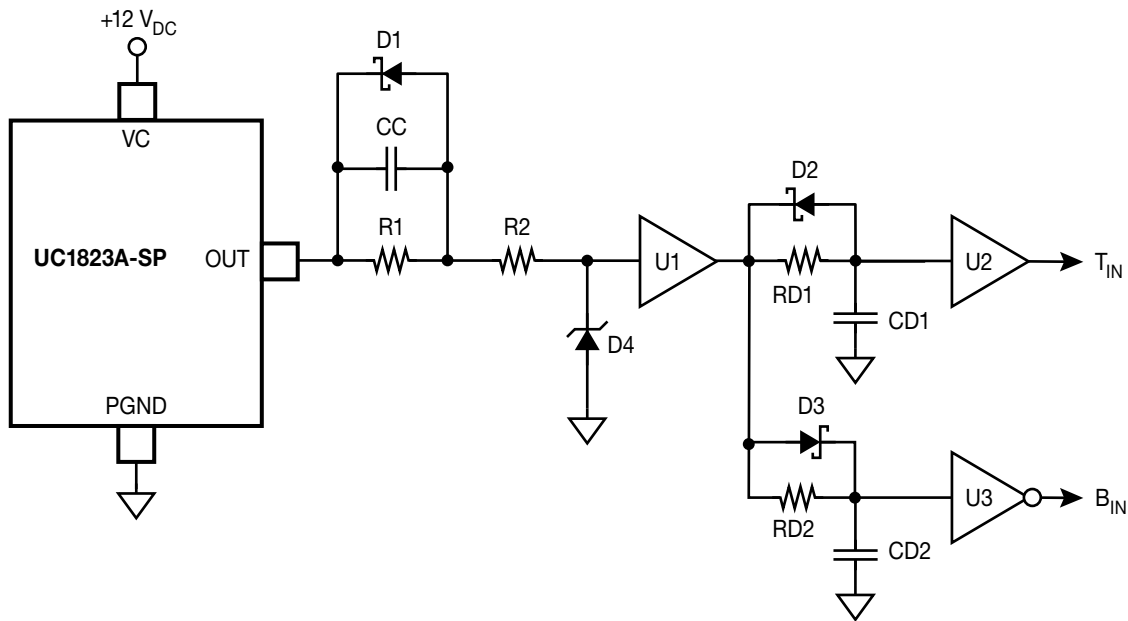
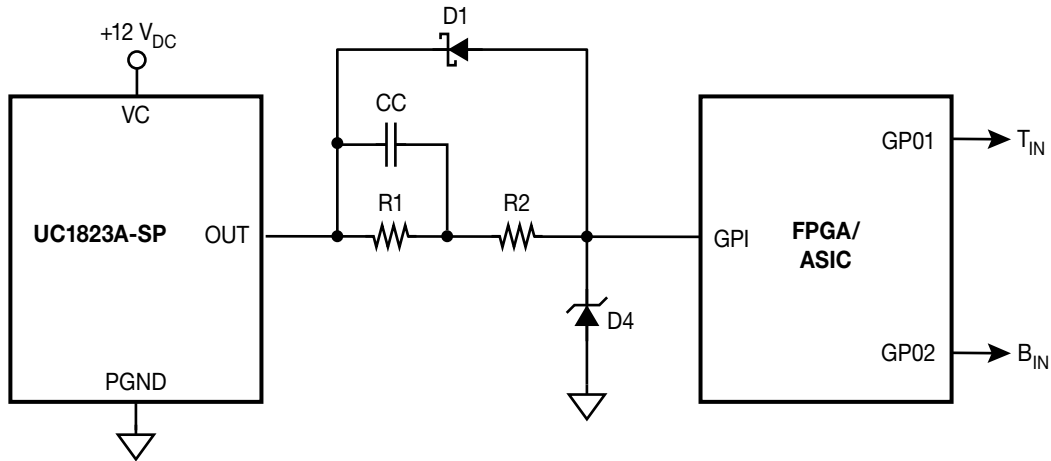
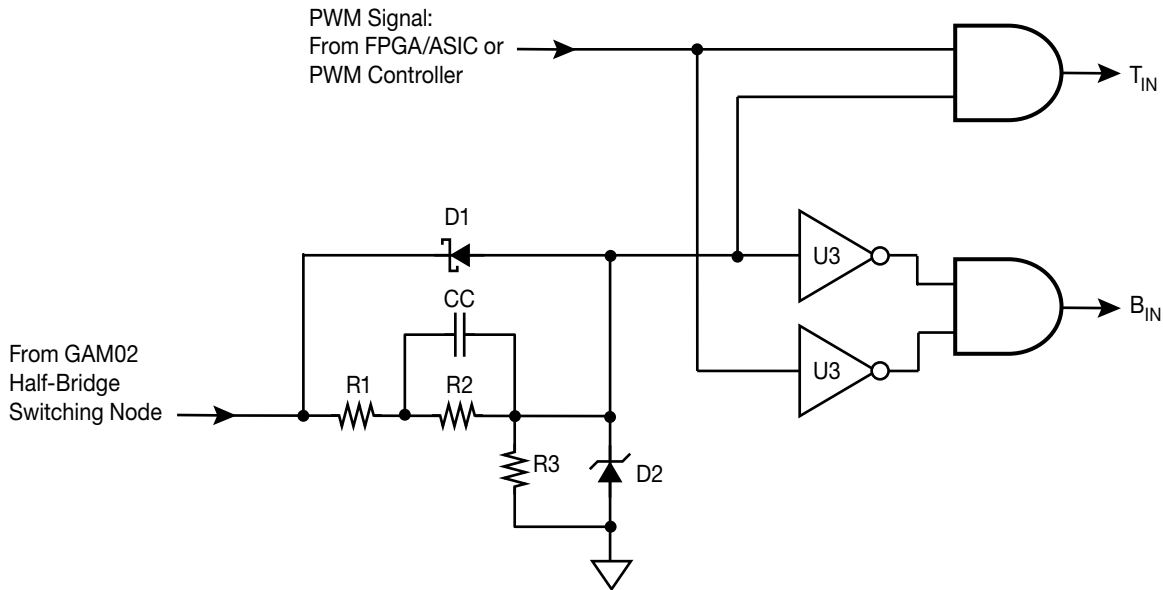

Figure 14. Zener Diode Logic Input Voltage Clamp Circuit and Dead Time Delay Circuit
Figure 15. Zener Diode Logic Input Voltage Clamp Circuit with ASIC/FPGA Two-Phase Clock (With Dead Time) Generator
Figure 16. Adaptive Dead Time Control for Cross-Conduction/Shoot-Through Avoidance
A Zener diode may be used to clamp the  $B_{IN}$  and  $T_{IN}$  logic inputs of the FBS-GAM02-P-C50 in order to interface the module to a high output voltage level PWM controller, as shown in Figure 14. The output of the UC1823A is a totem-pole configuration, and the output switches between  $0 V_{DC}$  and  $12 V_{DC}$  as logic 0 and logic 1, respectively. The transition times between logic states for a 1000 pF load are typically 20 ns, but much faster with lighter loads.
The same Zener diode clamping circuit as shown in Figure 14 may be used to clamp the output of the UC1823A to a lower voltage level in order to present it to an ASIC/FPGA in order to generate the requisite two-phase clock signals for the  $B_{IN}$  and  $T_{IN}$  logic inputs of the FBS-GAM02-P-C50. A typical circuit for this circuit implementation is shown in Figure 15:
In the circuit of Figure 15 all the high-speed and high accuracy analog functions associated with the PWM controller are performed off-chip from the FPGA/ASIC. The programmable logic of the FPGA/ASIC and the associated firmware code is responsible for generating the two-phase clock with dead times required by the  $B_{IN}$  and  $T_{IN}$  inputs of the FBS-GAM02-P-C50.
In circuits shown in both Figure 14 and 15 the dead times required by the FBS-GAM02-P-C50 to avoid cross-conduction/shoot-through are generated in a “brute force” manner either with analog components (Figure 14) or with programmable logic and firmware in an FPGA/ASIC (Figure 15). There is another way to obtain the optimum dead times for the FBS-GAM02-P-C50 device – adaptive dead time control, as shown in Figure 16.
Adaptive dead time control utilizes the state of the switching node (SN) of the GAM02 in order to allow the  $B_{IN}$  or  $T_{IN}$  signals (in this case the  $B_{IN}$  signal is the simple logical inverse of the  $T_{IN}$  signal) to be applied to the  $B_{IN}$  or  $T_{IN}$  logic inputs of the FBS-GAM02-P-C50 in order to avoid dynamic cross-conduction/shoot-through in the low- and high-side output power HEMTs. If the switching node of the FBS-GAM02-P-C50 is “low” (i.e. at PGND) then the low-side switch is turned ON, or in the process of turning OFF, and the high-side switch must not be turned ON (i.e. a logic 1 applied to the  $T_{IN}$  input). Similarly, if the switching node is “high” (i.e. at  $V_{DD}$ ), then the high side switch is turned ON, or in the process of turning OFF, and the low-side switch must not be turned ON (i.e. a logic 1 applied to the  $B_{IN}$  input). However, if the  $B_{IN}$  input is logic 0 and the switching node is “high” (i.e. the high-side catch Schottky conducting load current) then the  $T_{IN}$  input may be set to logic 1 to turn on the high-side driver. This same situation applies to the high-side driver: If the  $T_{IN}$  input is logic 0 and the switching node is “low” (i.e. the low-side catch Schottky is conducting load current) then the  $B_{IN}$  input may be set to logic 1 to turn on the low-side driver. The circuit shown in Figure 16 relies on a similar voltage clamping scheme for the switching node as was utilized in Figures 14 and 15, with the exception that the power supply  $V_{DD}$ , and subsequent range of the switching node, could be much higher than  $12 V_{DC}$  – in fact up to  $50 V_{DC}$  for the FBS-GAM02-P-C50. So greater care must be exercised in the selection of the clamping components to avoid excessive power dissipation in them, and the associated decrease in circuit efficiency. It is strongly recommended to simulate the circuit once the components have been selected to ensure that the proper clamping level is achieved and that the power dissipation of the clamp circuit is kept to a reasonable level so as not to affect overall circuit operating efficiency.